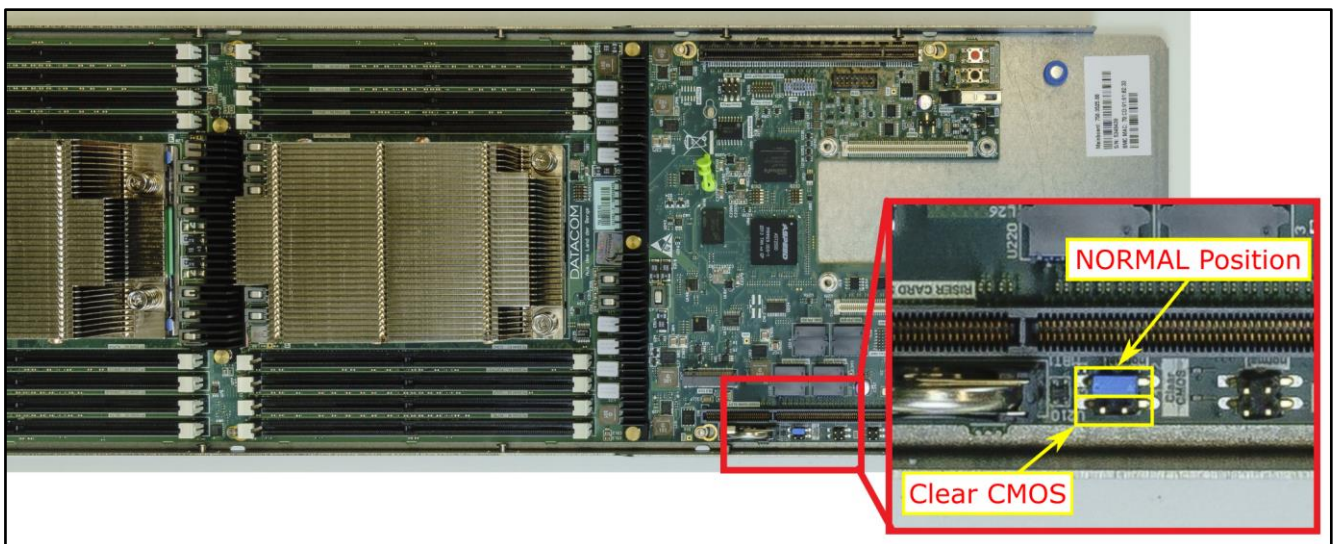

Figure 100: Clear CMOS
3. Remove the jumper from the “Normal” position and place it in the “CLEAR CMOS” position (please see Figure 100). Wait for approximately 10 seconds.
4. Remove the jumper from the “CLEAR CMOS” position and place it back in the “Normal” position (please see Figure 100). **Warning: The non completion of this step will cause the host processor to hang at the boot phase.**